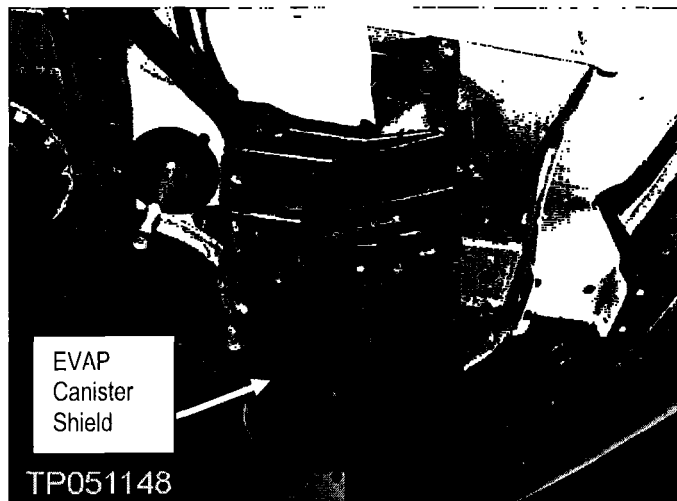

Figure 37
- Remove three nuts and remove the evaporative canister shield (see Figure 37).